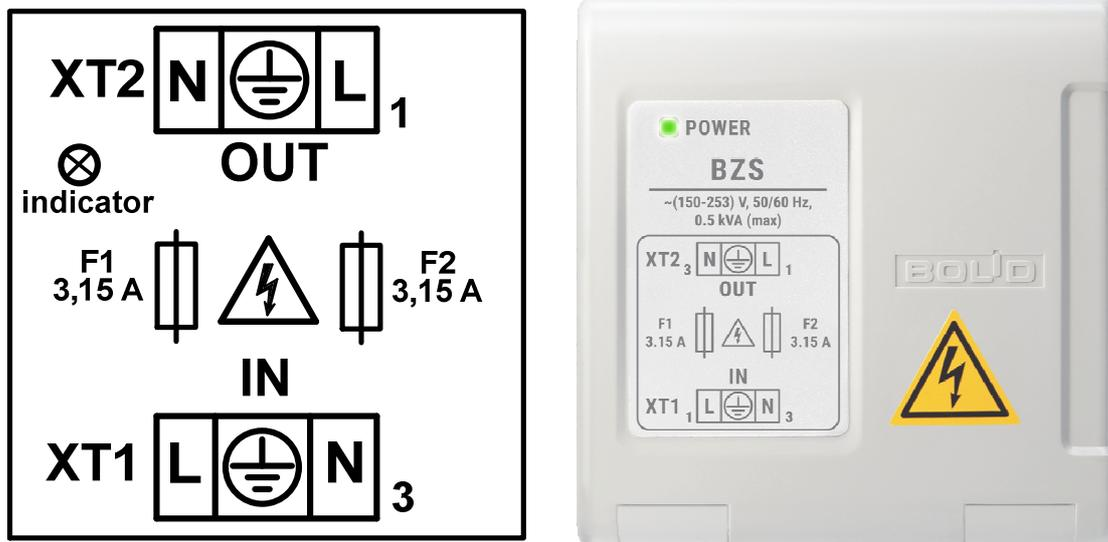

Figure 1
2.2.2.1 The BZS poses a standalone device, with its PCB being placed within its housing. The housing consists of two parts: the top cover and the base, which the PCB board is attached to. There are input and output terminal blocks (XT1: "IN" and XT2: "OUT" respectively), two fuses, protection elements, and a LED indicator on the PCB board (see Figure 1).
2.2.4.1 Input lines 220 V (“L” for “Line”, “N” for “Neutral”), grounding, and output lines for the protected equipment shall be connected as per Figure 1.
While connecting mains power 220 V to the mains terminal block, one should observe polarity of coupling the circuits Line and Neutral. Connect the circuits as guided by the marking on the front of the housing or as shown in Figure 1.